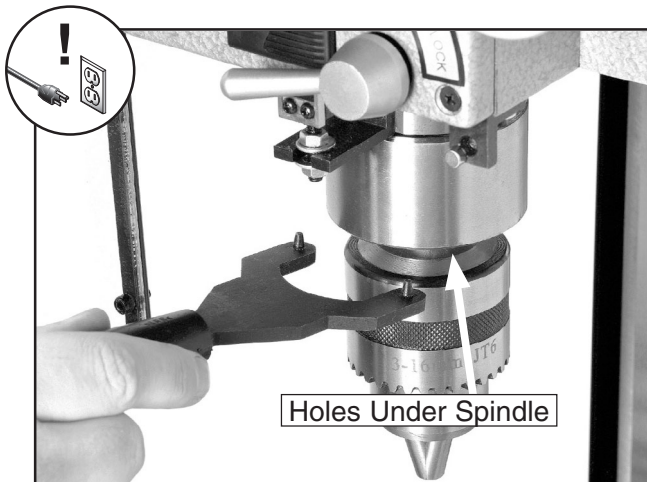

Figure 11. Spindle holes.
4. Insert the pin spanner into the two holes at the bottom of the spindle (see **Figure 11**).